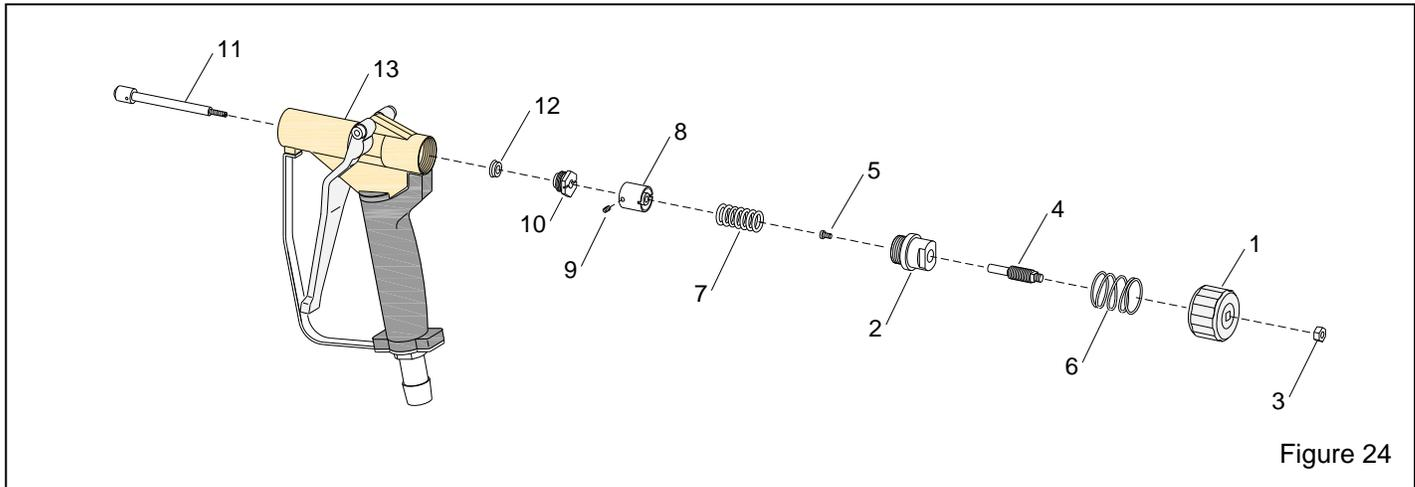

Figure 24
9.6 Gun and Trigger Assembly – Figure 24